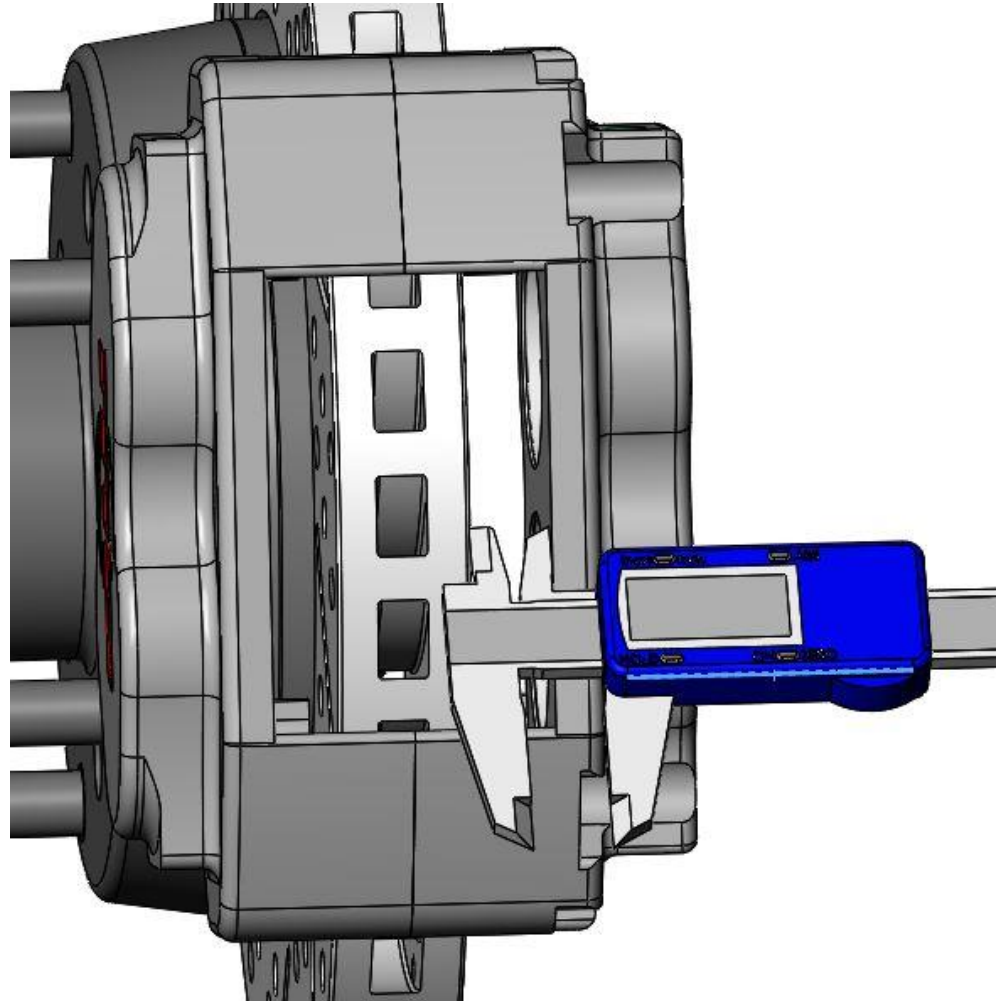

Figure 6a – Measuring the Pad to Rotor Clearance
**NOTE:** Shimming of the caliper is required due to variations in spindle manufacturing and wear at the bearing seat area of the inner bearing. Refer to Figure 6a for measuring reference and Figure 6b on the location of the shims.